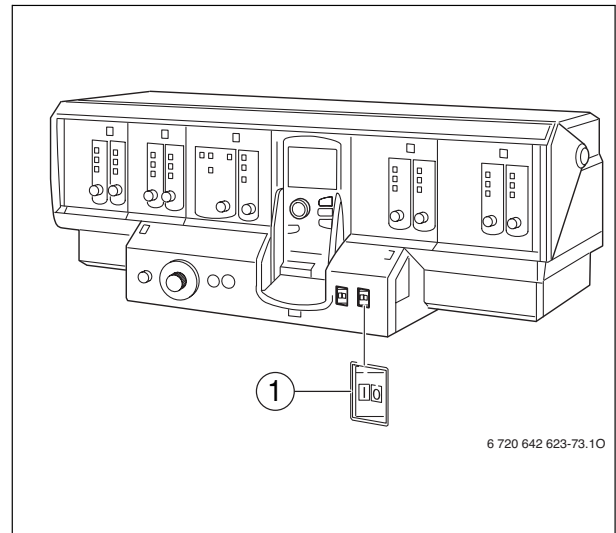

Fig. 54 Example showing Logamatic 4311
- ▶ Put the main power switch (→ Fig. 54, [1]) on the control panel in position "0".